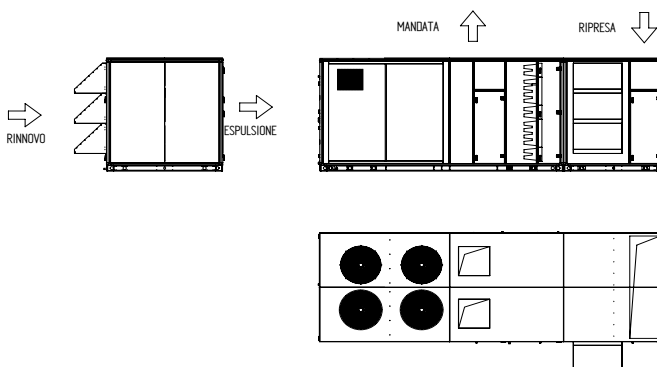
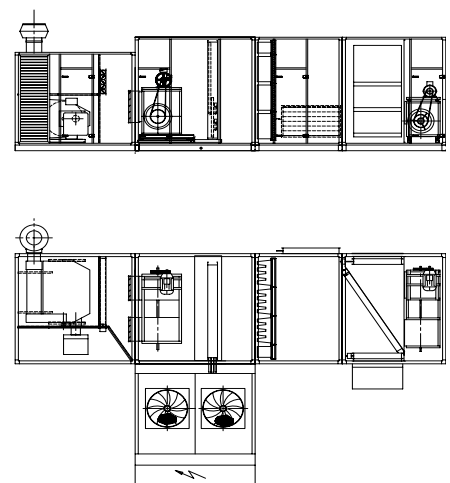

Figure 1 - MFS 220 - in line arrangement
Figure 2 - MFS 220 - T arrangement
- condensing unit arranged 'in line' with respect to the air-handling side (see Figure 1): available option up to the size 220 included. Beyond the size 220 only the 'T' arrangement is available (see Figure 2);